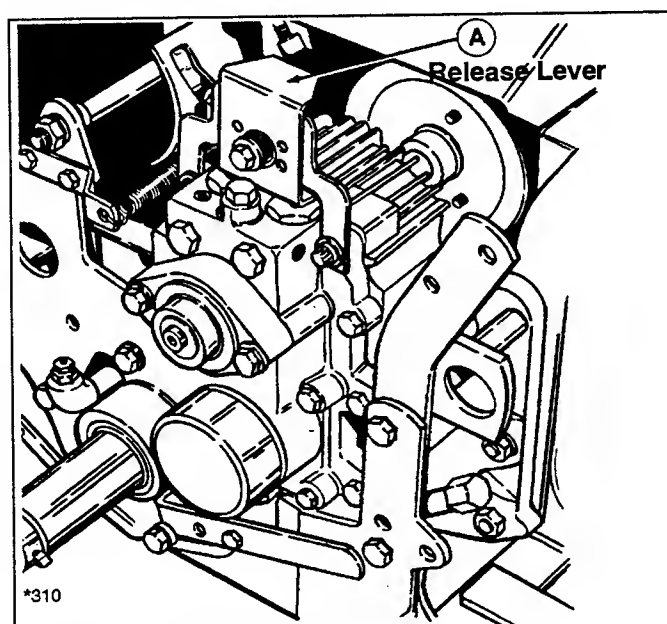

Figure 7. Transmission Release Lever
1. To push tractor by hand, the release lever (A, figure 7) must be engaged (pushed all the way down). Do not push the tractor with the engine running.